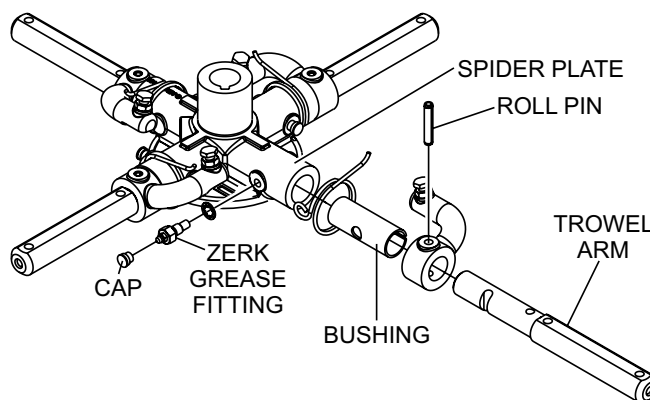

**Figure 52. Blade Removal**
2. Remove the bolts and lock washers from all the trowel arms, and then remove the blades as shown in Figure 52.